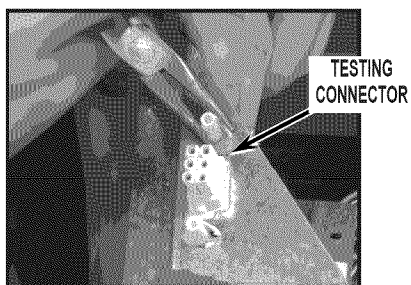

FIGURE 14
- Remove testing connector (if applicable) by using pliers to squeeze the two wings and backing the connector through the switch plate assembly. Repeat this procedure for the opposite side of the connector. See *Figure 14*.